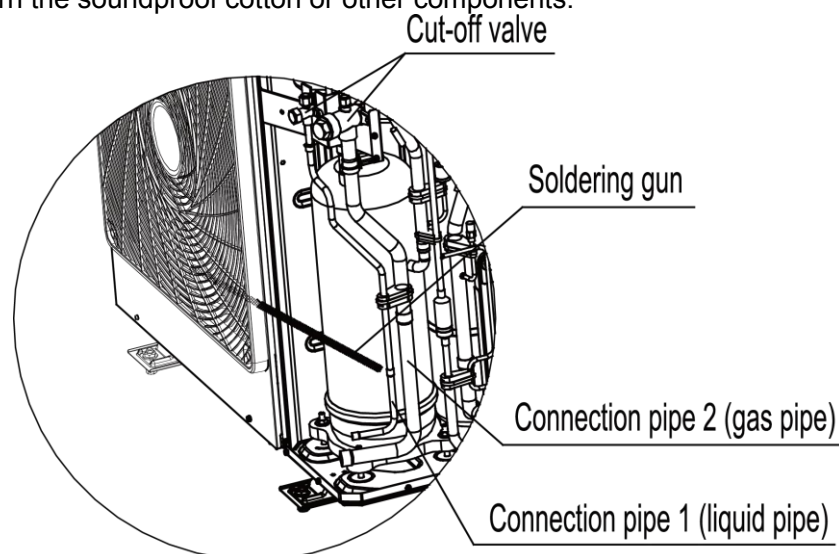
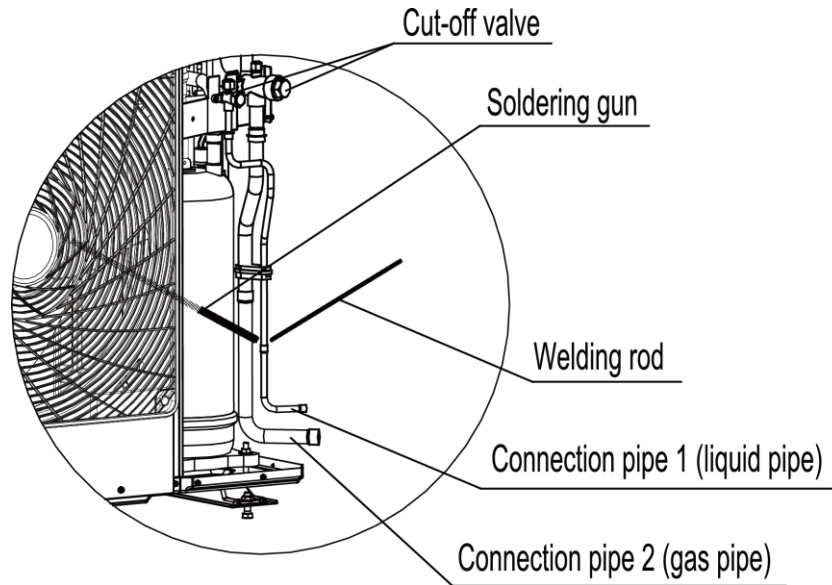

Fig. 17
Fig.18
- 2) If connection pipe is connected at the side as shown in Fig.17 and Fig.18, open the front side plate, rear side plate and connection board. Then open the soundproof cotton. Use a soldering gun to unsolder connection pipe 1 and connection pipe 2. Rotate them to a proper angle and install them to their respective position. Seal the apertures with welding rod. First weld connection pipe 1 (liquid pipe) and then weld connection pipe 2 (gas pipe). During welding, it's necessary to use wet gauze to wrap up the filter near connection pipe 2 and the two cut-off valves. Make sure the flame won't burn the soundproof cotton or other components.
- (2) Y-type branch has several pipe sections with different dimension, which facilitates to match with various copper pipes. Use pipe cutter to cut in the middle of the pipe section that is of proper dimension and remove burrs as well. See Fig.17.
- (3) Y-type branch must be installed vertically or horizontally.
- 4) Joints of indoor and outdoor unit should be wrapped with insulating material and leave no gap between pipe and wall. See Fig.18.